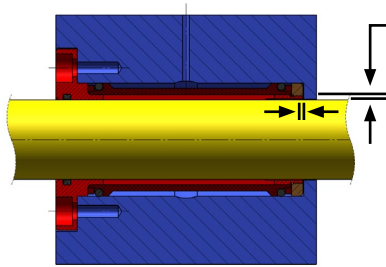

Figure 1
- Provide shoulders on each end of the bushings to help support hydraulic and thrust forces. Maximum clearance in 0.25mm ($.010''$) for diameters 0.1mm ($.004$) for axial location (see Figures 1 & 2 on page 7).